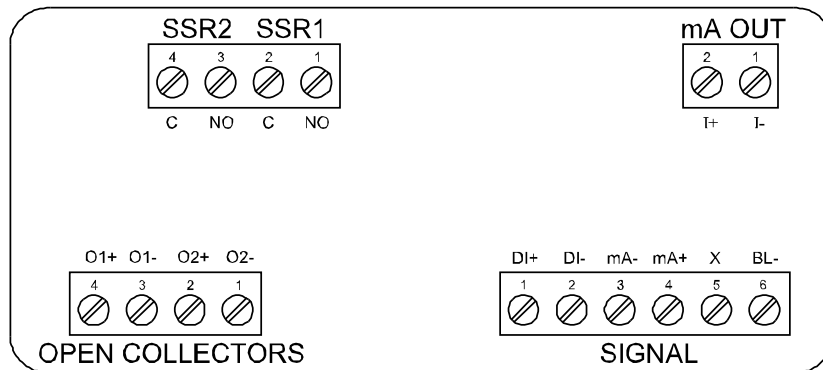

Figure 4. Connector Labeling for Fully Loaded PD6600
Signal connections are made to a six-terminal connector labeled SIGNAL on Figure 4. The following figures show a 4-20 mA current loop connected to the meter. The first figure shows the connection without the backlight and the second shows the connection with the backlight (the backlight can be disabled/enabled in the SYSTEM menu). The meter is powered by the 4-20 mA current loop. There are no switches or jumpers to set up for the input. Setup and programming is performed through the front panel buttons.
Relay connections are made to two-terminal connectors labeled SSR1 and SSR2 in Figure 4. Each relay's C terminal is common only to the normally open (NO) contact of the corresponding relay.